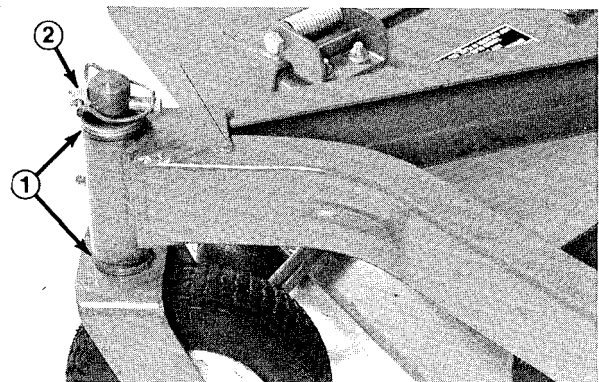

Figure 34
A. Cutting units usually operated at 1 to 2 in. height-of-cut should have the low side of the cutting unit raised. Remove the lynch pin securing castor wheel on low end (Fig. 34) and remove castor assembly.
B. Transfer one thrust washer from top side of castor shaft to lower side, install castor assembly and compare blade height of all blades; refer to items 3 through 7. Continue adding thrust washers if height still does not meet requirements.
C. If cutting unit is operated at 2 to 4 in. height-of-cut, lower the high side of cutting unit. Remove lynch pin of castor at high end of unit and remove castor assembly (Fig. 34).